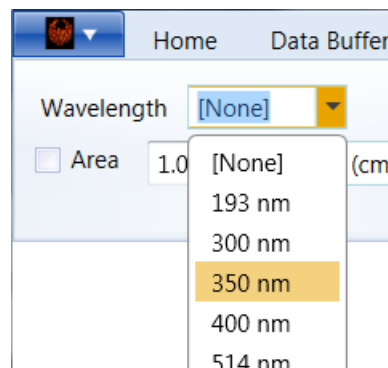

Figure 8-6. Select Wavelength
- Alternatively, edit the Wavelength table to add the new setting to the drop-down menu, shown in Figure 8-6.